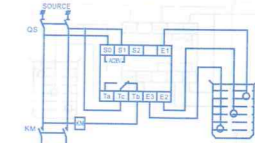

Fig 2 Wiring Diagram of Water Supply Method for NJYW1-NL1, NJYW1-NL2
4.10 Wiring principle of relay is shown in Fig 2~Fig 9.